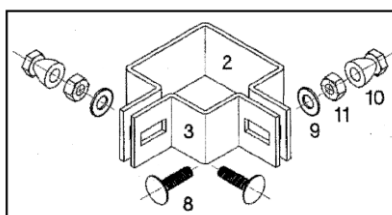

Figure 3
- Corner post accessory set (figure 3)